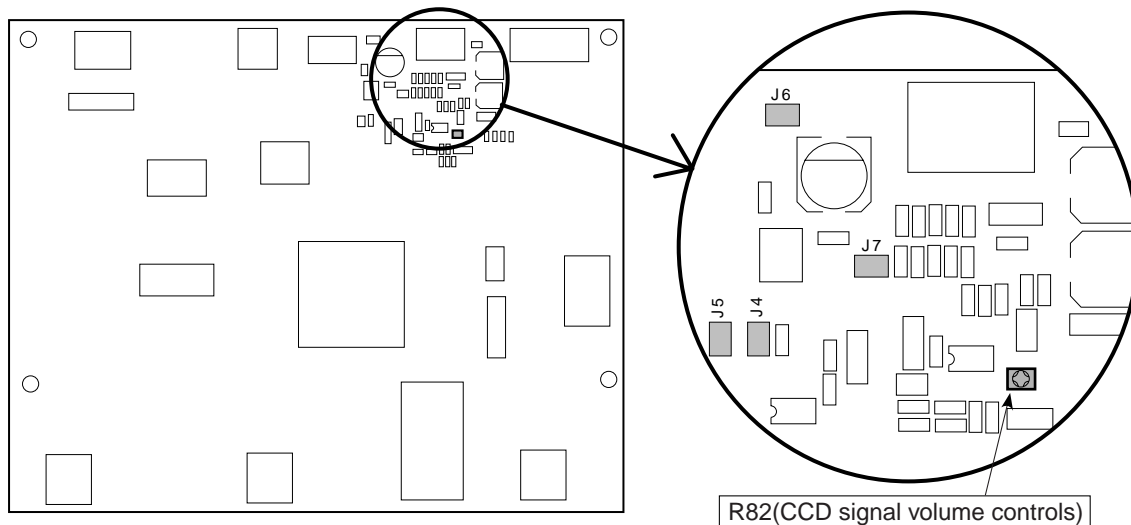

Fig. 3 Main Board Assy
- 2) Connect the probe of an oscilloscope to the Main Board Assy. (See Figure 3.)
When a waveform is saturated, turn the volume control shown in Figure 3 counterclockwise and adjust the waveform to the position where it is not saturated.